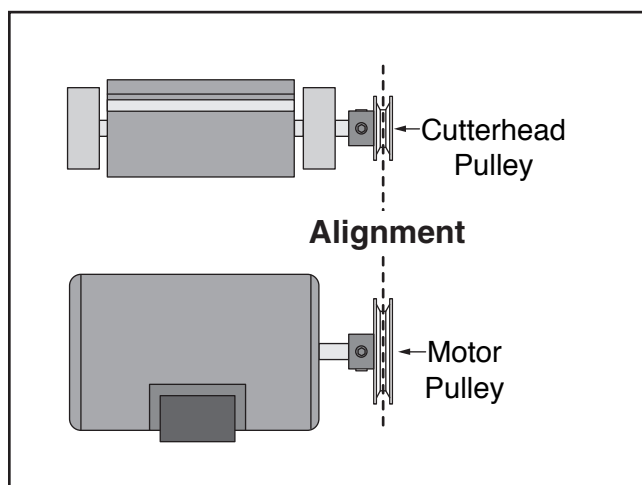

Figure 18. Pulleys aligned.
15. Check the alignment of the pulleys to make sure that they are aligned and that the V-belt is straight up and down, as shown in **Figure 18**.